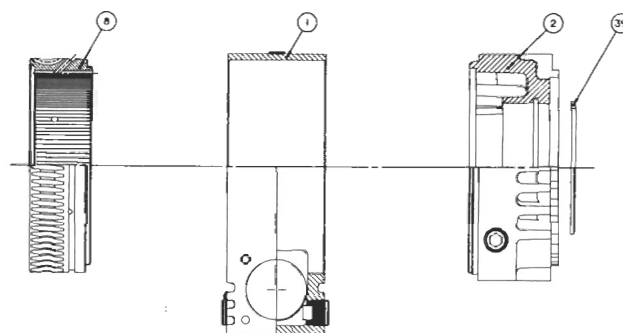

Figure 7
16. Remove spur worm gear (8) from the center housing (1) and end bell (2). See Figure 7.
17. Remove bevel snap ring (39) from the end bell (2). See Figure 7.
18. End Bell (2) can be separated from the center housing (1) if either needs replacing. Remove screws (50, 51, 52) and use a rubber or soft hammer to free end bell (2). See Figure 7.